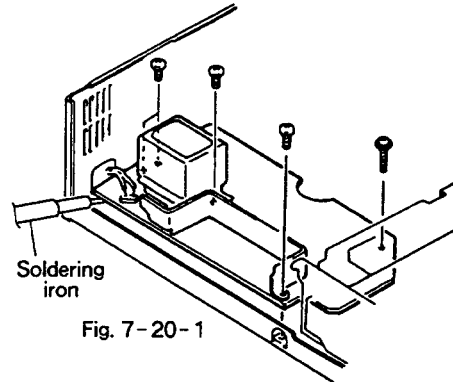

Fig. 7-20-1
1. Remove the screw fixing the SYPS assembly and keep the SYPS assembly apart about 3cm from the base chassis (See Fig. 7-20-1).
2. Insert a soldering iron between the SYPS assembly and base chassis, alternately desolder the lapping pins of an AC power cord, and remove the lapping pins (See Fig. 7-20-1).